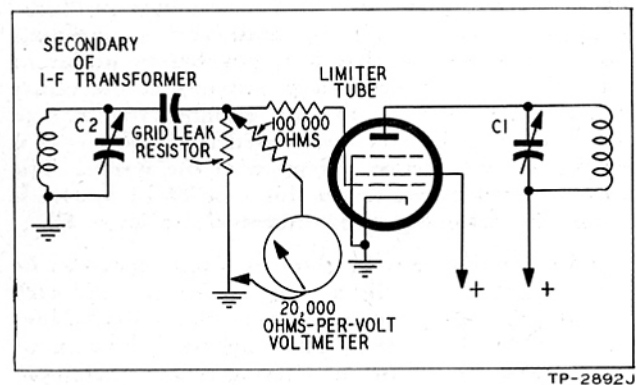

Figure 13. Limiter Circuit with D-C Indicator Connected
grid-leak resistor, as shown in figure 13. Note that a 100,000-ohm isolating resistor is connected between the voltmeter prod and the grid circuit to avoid detuning the input circuit of the limiter. If two limiters are used, the meter is connected to the first limiter for i-f and r-f stage adjustments, then to the last limiter for adjustment of first limiter tuning.
5. Connect the tuning indicator to the grid circuit of the last limiter, as shown in figure 13.